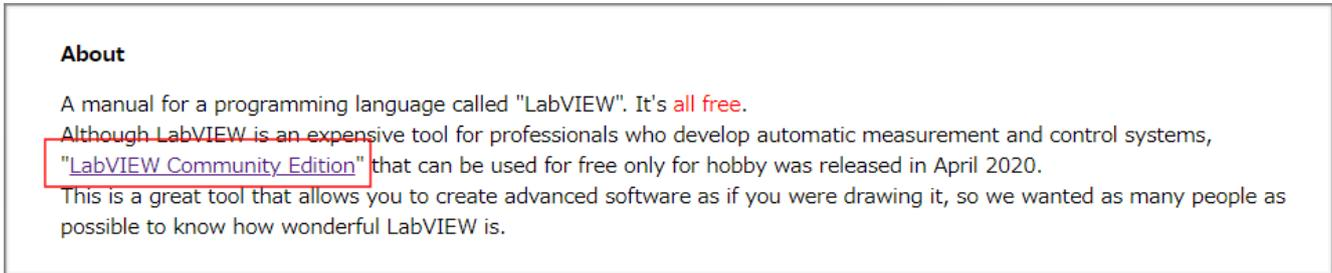

Figure 2-6 Link to LabVIEW Community Edition
1. Access the website below and click on LabVIEW Community Edition link (Figure 2-6).